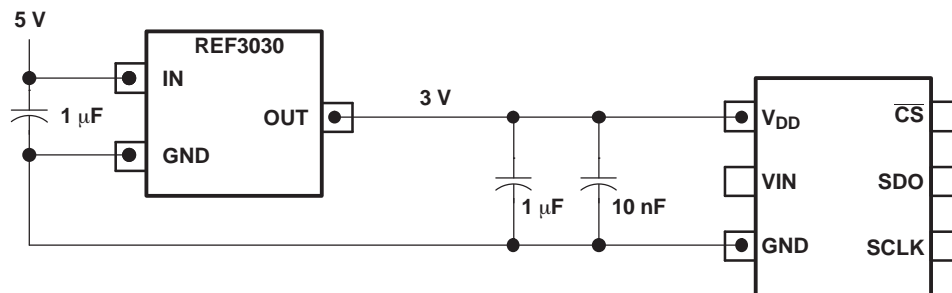

Figure 23. Using the REF3030 Reference
- From a reference output from a low-drift and low-dropout reference voltage generator like REF3030 or REF3130. The ADS7887 can operate off a wide range of supply voltages. The actual choice of the reference voltage generator depends upon the system. Figure 23 shows one possible application circuit.